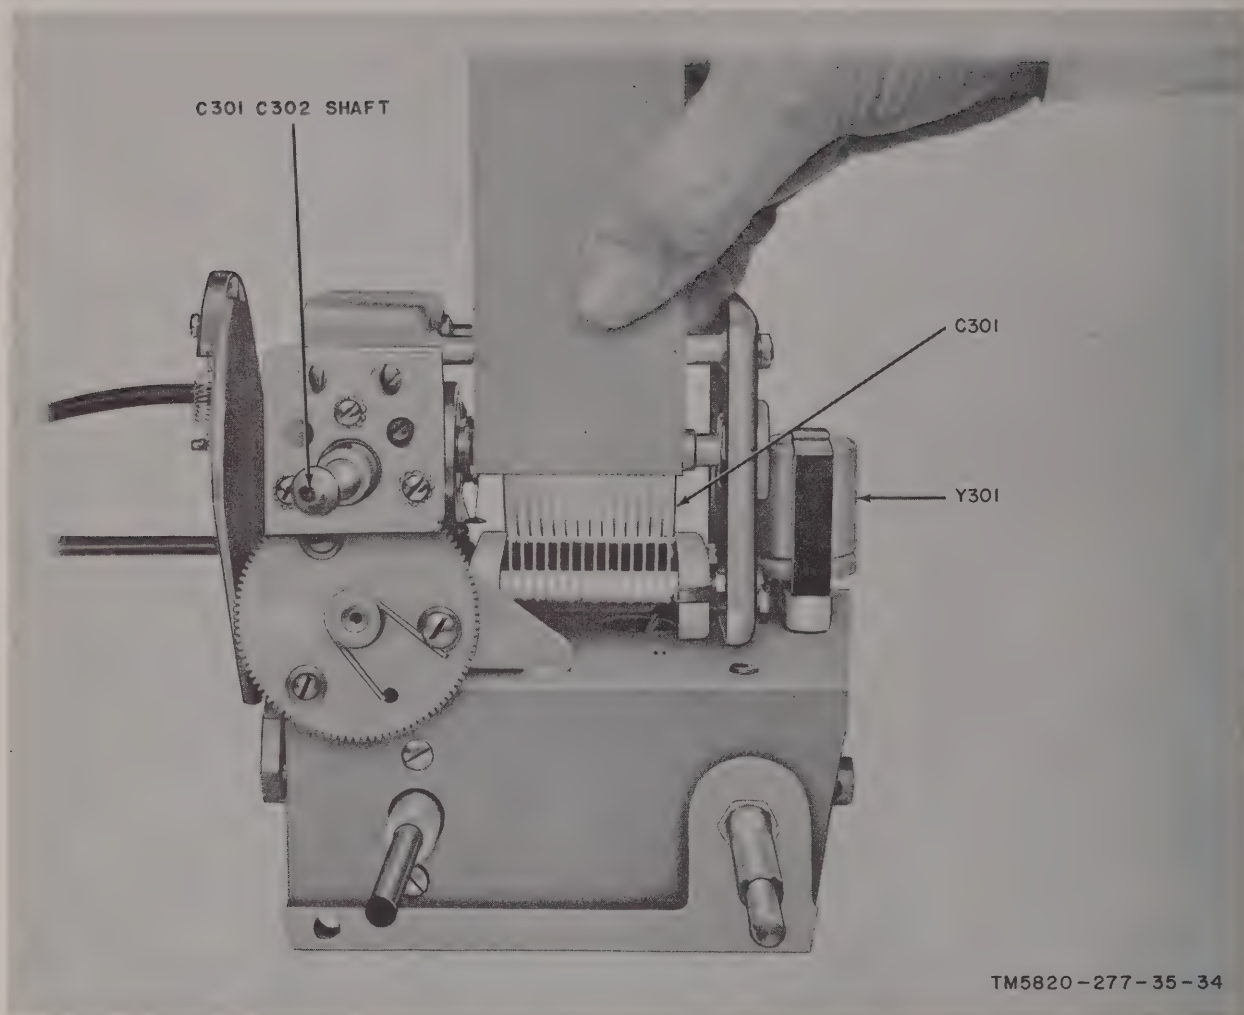

Figure 30. Variable master oscillator assembly, adjustment procedure.
- (1) Set the oscillator assembly down as shown in figure 30.
- (2) Turn the C301 C302 shaft until C301 is in full mesh. Hold a 3- by 5-inch card above the capacitor (fig. 30). When no light is seen beneath the card, the capacitor is in exact full mesh. This position corresponds to the locked dial setting of 1,900,000 cps.
- (3) Holding the oscillator assembly as